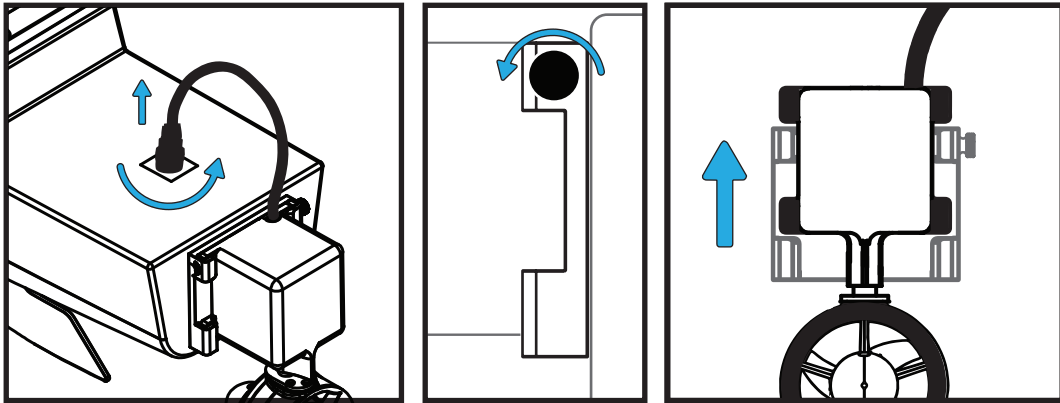

Figure 43: Thruster Removal
1. Remove the Thruster from the pontoon. (Figure 43)